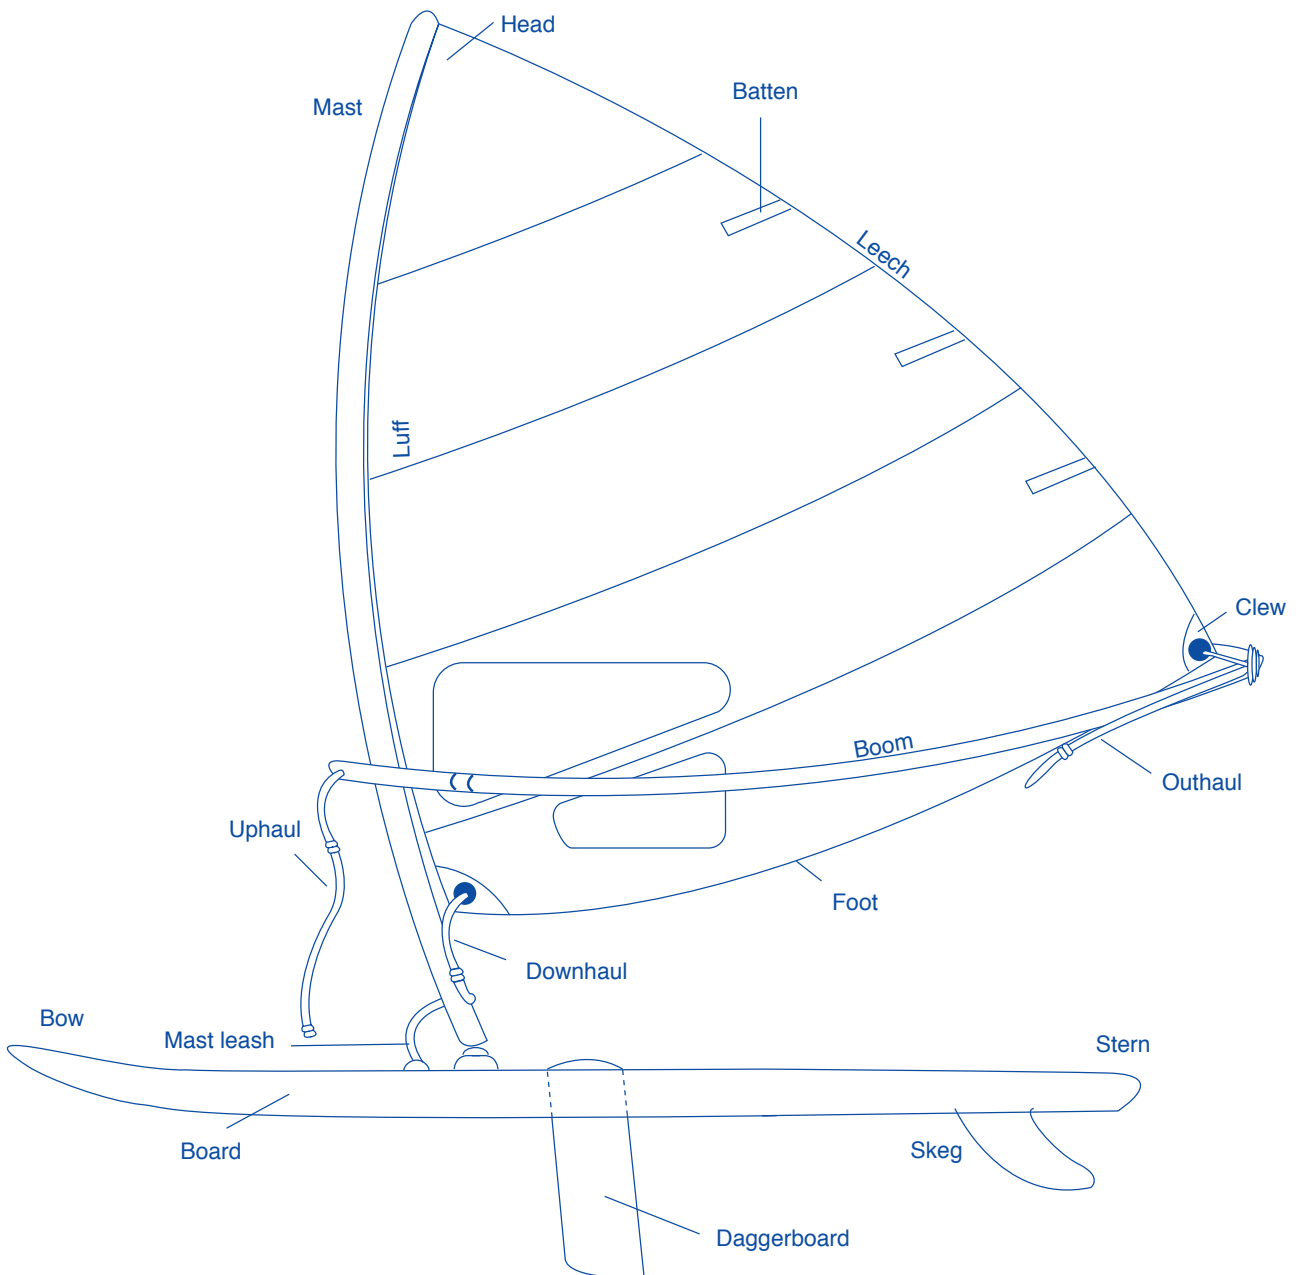

Figure 62.2 Parts of a sailboard.
9. In your notebook, redraw the illustration of the sailboard in Figure 62.2.